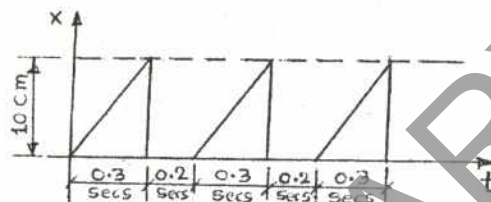

Fig.Q.1(b).
- b. Represent the periodic motions given by following Fig.Q.1(b) by harmonic series. (10 Marks)